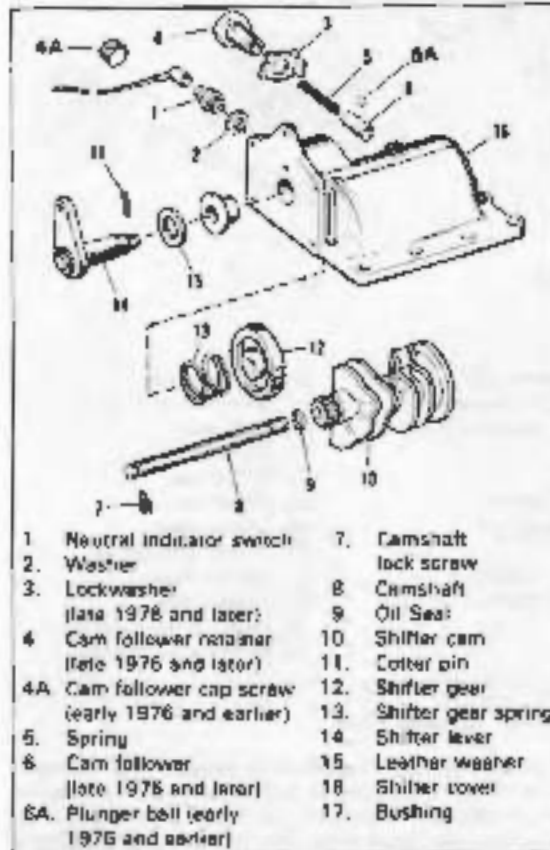

Figure 4-11. Hand Shifter Cover - Exploded View
Disassemble shifter cover parts 1 through 12 as described in "Disassembling Shifter Cover (Foot Shift)," see Figure 4-11. Time shifter notches as illustrated in Figure 4-13. Loosen screw (14, Figure 4-11) and rotate adapter plate (16) until timing notch (Figure 4-13) in adapter plate, located at bottom of shifter gear hole, lines up with notch between two shifter gear teeth. Make alignment exact, then tighten adapter plate bracket screw to lock in position. This adjustment can be made with shifter in any gear (not neutral).
### DISASSEMBLING SHIFTER COVER (HAND SHIFT) (Figure 4-11)
### CLEANING, INSPECTION AND REPAIR (Figure 4-11)
### ASSEMBLING SHIFTER COVER (HAND SHIFT) (Figure 4-11)